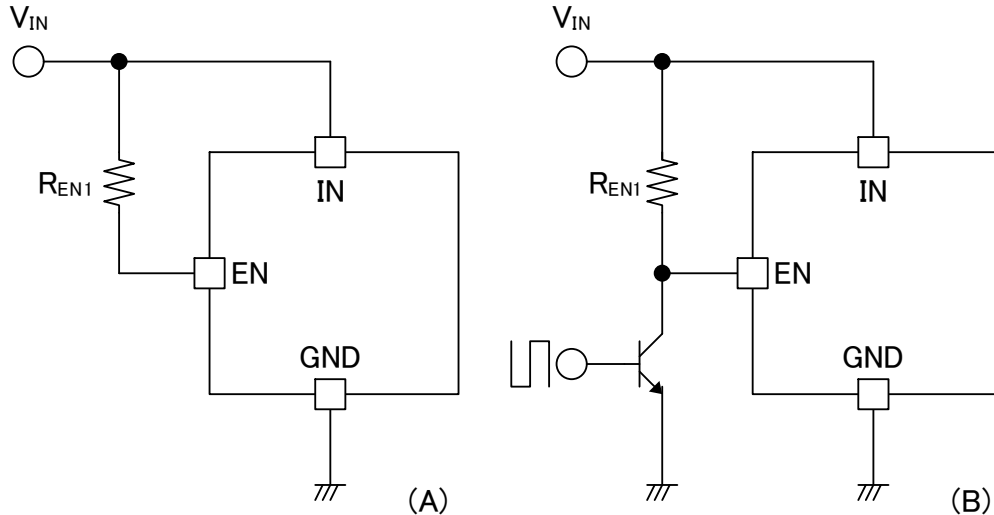

Fig. 7-2 Remote ON/OFF by EN terminal
The Fig7-2 (B) is the option of the "Remote ON/OFF control" by using the EN terminal. By using switch such as Open-collector and, by removing the EN terminal voltage  $V_{EN}$  to GND level (Low), it is possible to turn OFF. In case of without ON / OFF operation by external signal, please use the Fig7-2 (A) connection. It is started by the applying of the  $V_{IN}$ , and it is stopped by shut-off of the  $V_{IN}$ .  $R_{EN1}$  is recommended 100[k $\Omega$ ].